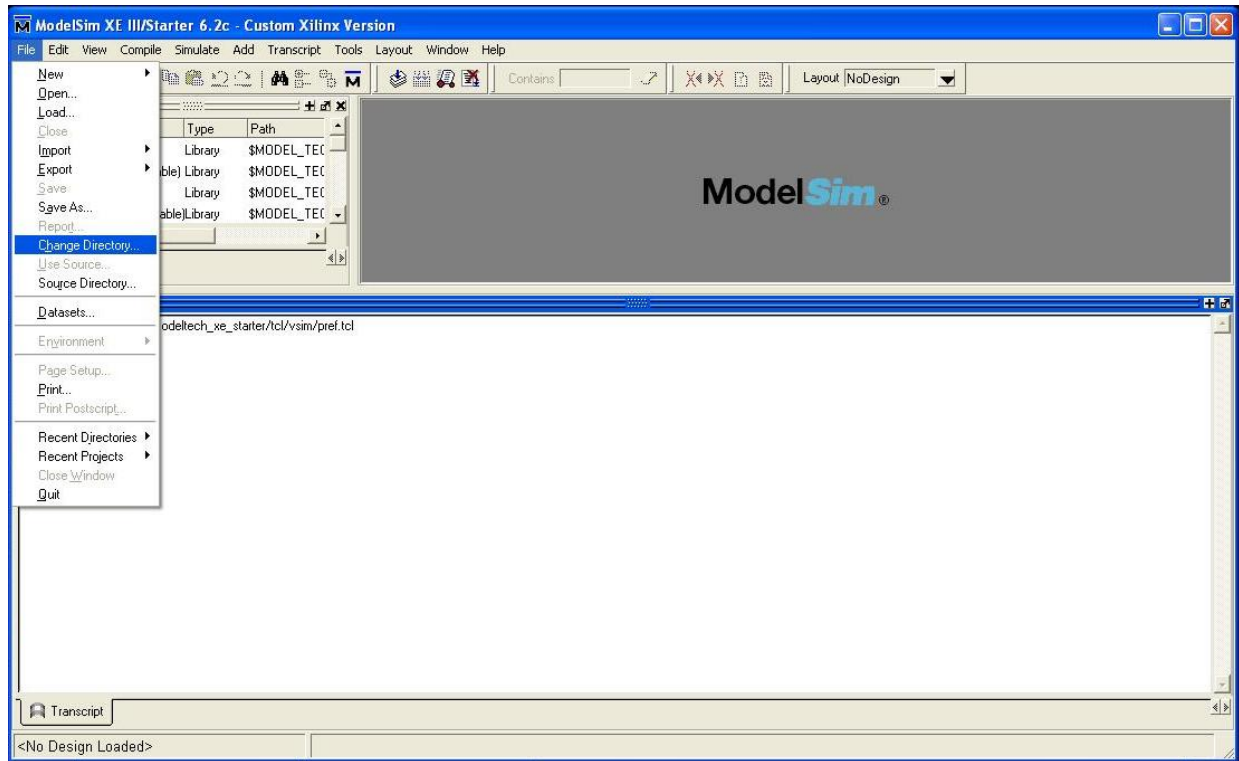

Figure 3: File -> Change Directory Menu
3. Tell ModelSim to change to the directory that you created according to the guidelines in **B** above. This should be done by the “File → Change Directory” menu, as shown in figure 3: